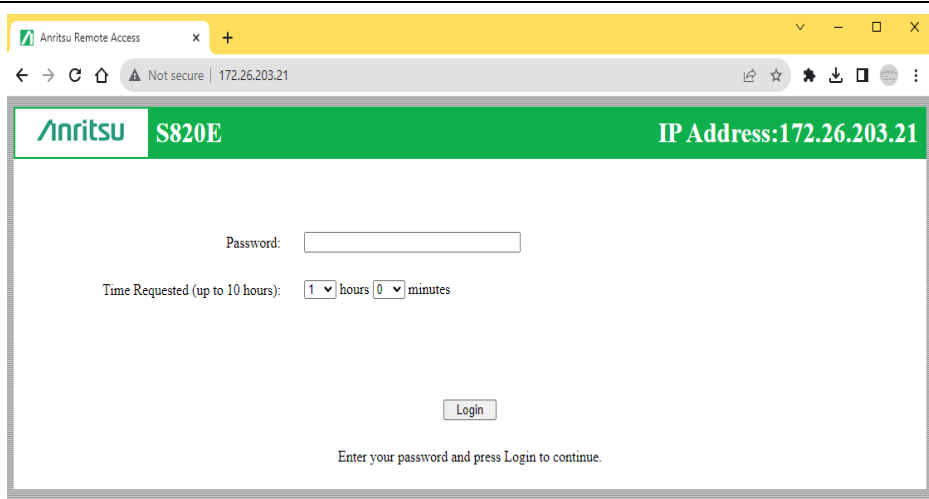

Figure 14-1. Login Page
7. Enter the instrument IP address in the browser address bar to open the Web Remote Control Login page illustrated in Figure 14-1 on page 14-4.
6. In the browser address bar, enter the instrument IP address set in Step 1 to open the Web Remote Control Login page illustrated in Figure 14-1 on page 14-4.
7. Enter the instrument IP address in the browser address bar to open the Web Remote Control Login page illustrated in Figure 14-1.
The Web Remote Control Login page opens following browser connection to the instrument. See Figure 14-1.